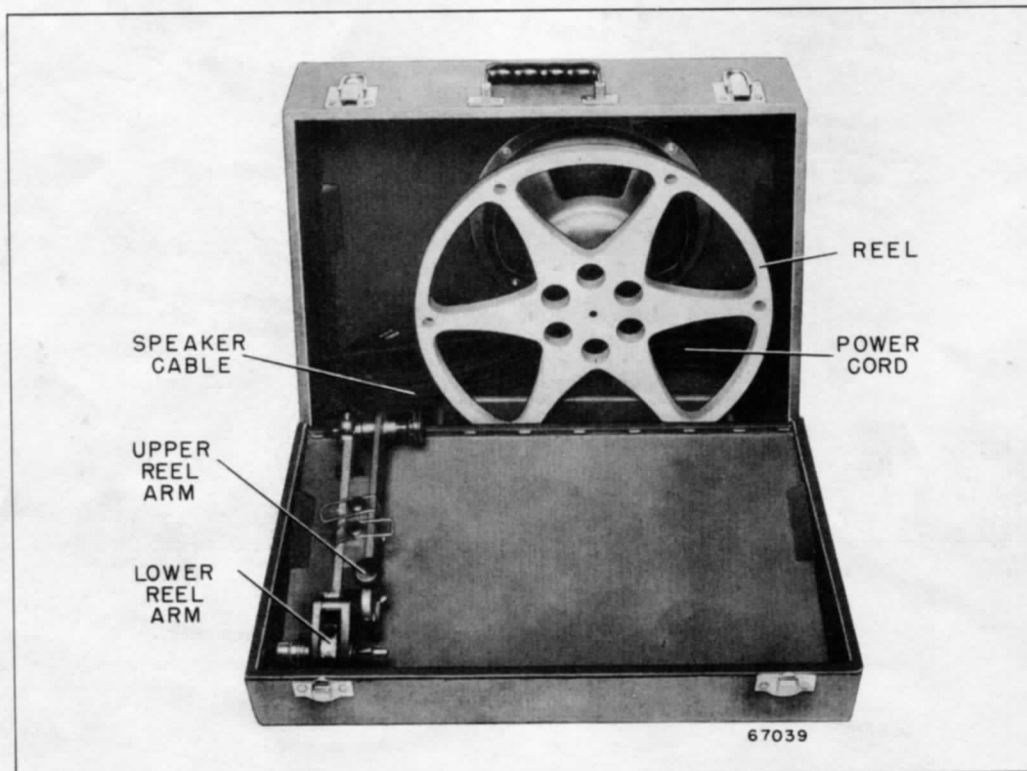

Figure 1—Loudspeaker with Accessories in Place
1. Refer to figure 1, on this page, for a view of the loudspeaker case with the equipment accessories packed in place.
case as shown in figure 1. Coil the speaker cable and the power cord and put them in the case. Put the empty reel against the speaker magnet so that it will be held there securely by the magnetism.